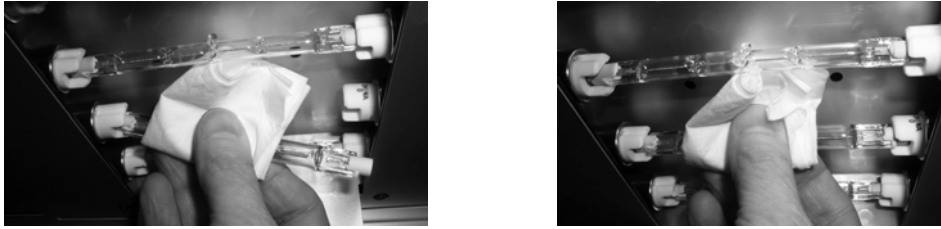

Figure 14. Lamp Replacement
4. Using a piece of lens paper (or equivalent) between your fingers and the lamp; push one end of the replacement lamp into the socket. Refer to Figure 14.
5. Insert the other end of the lamp into the other socket and release the lamp. Refer to Figure 14.